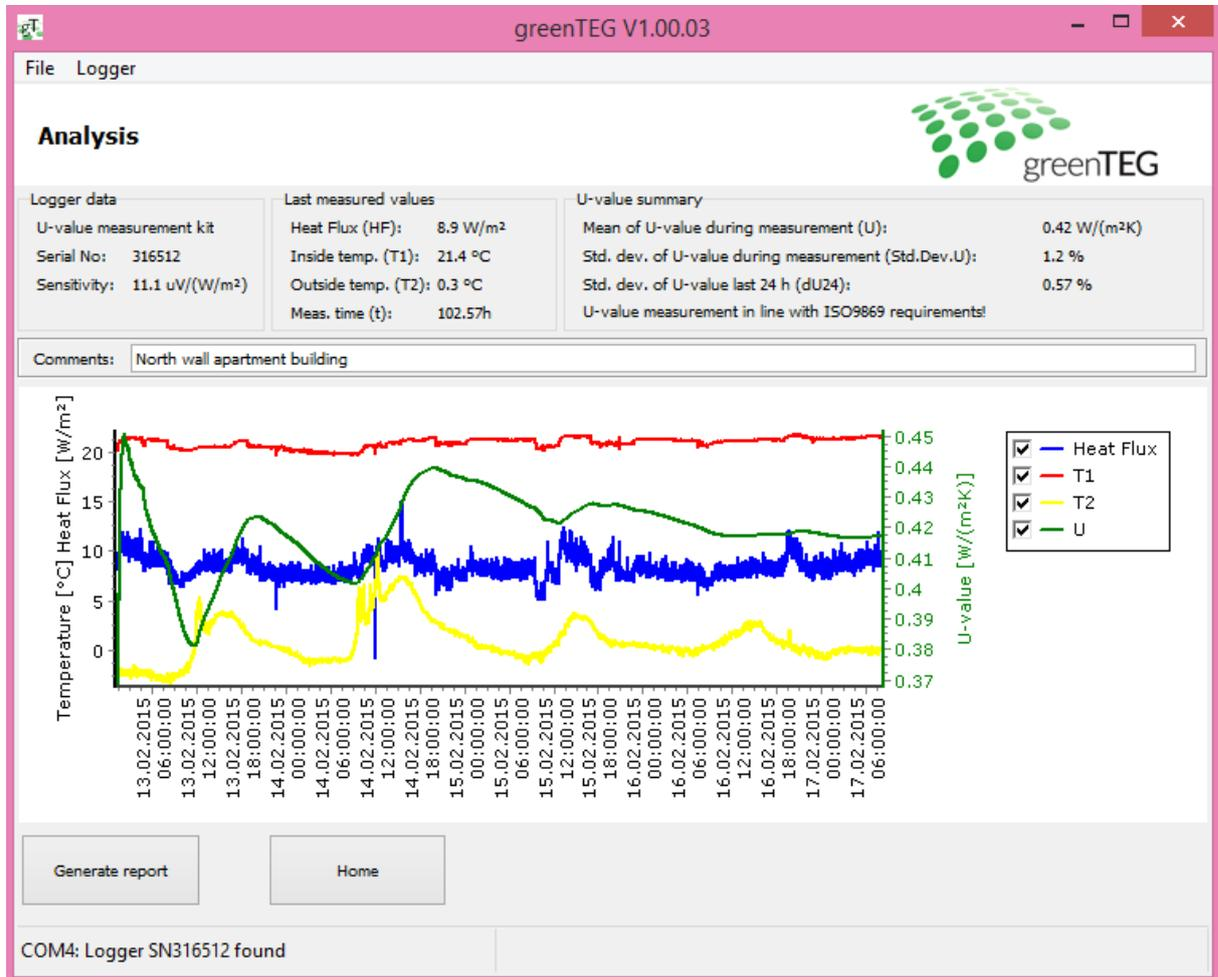

Figure 3. Analysis window showing U-value output and sensor data graphs
10. By selecting the latest logging file, you can review the logged data set. In the newly opened window named "Analyse record", you will find the last measured data points. "Last measured values", shows you the last temperatures, heat flux and total time of data logging and next to it under "U-value summary", you can read the measured U-value, standard deviation for both the whole measurement period and the last 24 hours. A graphical review is given for all measured and calculated values: blue line for heat flux, red for indoor temperature (T1), yellow for outdoor temperature (T2), and green for the calculated U-value (See Figure 3). Note that the "comments" section shows the comments made regarding your latest measurement activity (see step 7). In order to save this comment, you need to save the report as a pdf (see step 11), otherwise this comment will be overwritten by your next comment. So, be aware that if you are reviewing an old data set, it
doesn't show the original comments anymore. You can correct this again by simply revising the text in the box after "comments" (see figure 3).